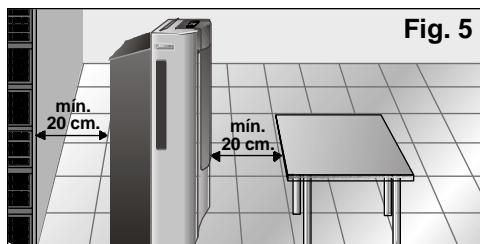

Fig. 5
- ❑ For safety reasons, the appliance must be at least 20 cm away from any nearby surface before it is turned on, Fig. 5.